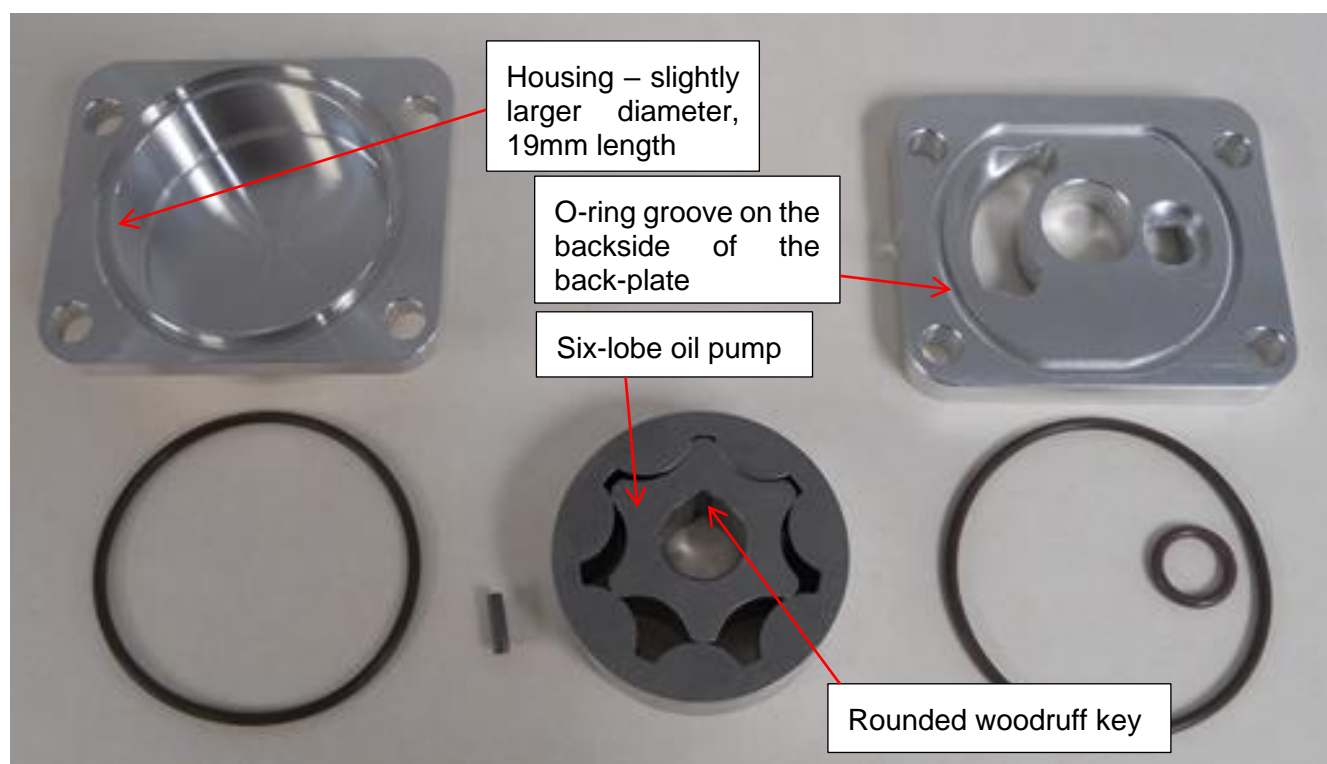

Figure 83 - Six-lobe oil pump overview
- As of April 2020 the **Narrow-lobe** or **Broad-lobe** oil pump assemblies are no longer available and have been replaced with a single size **Six-lobe** oil pump assembly. The Six lobe pump is 19mm long. The diameter of the outer rotor is slightly larger than that of previous oil pump designs. This oil pump also uses a rounded woodruff key. Due to these differences if replacement oil pump parts are required, the entire oil pump assembly must be replaced including (parts shown below in Figure 83):